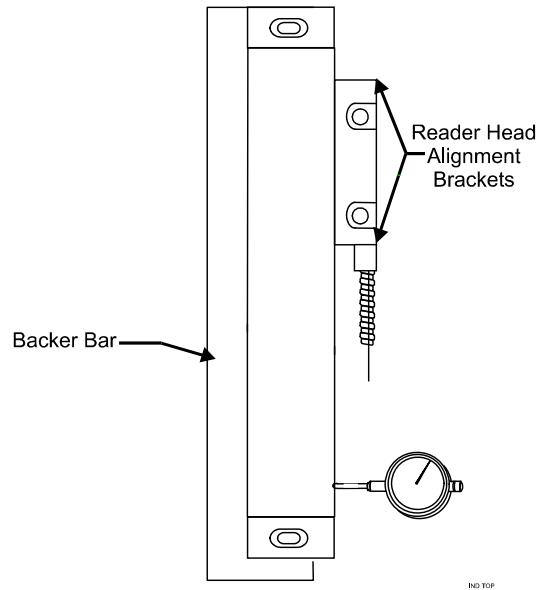

Figure 3-35, Aligning the Z-Axis Linear Encoder
7. Attach an indicator to the stop block. As you move the quill up and down its entire travel, indicate the edge of the backer bar. Ensure that the backer bar's vertical alignment is parallel to quill travel. Any misalignment will be visible when the installation is completed. Refer to **Figure 3-35, Aligning the Z-Axis Linear Encoder**.